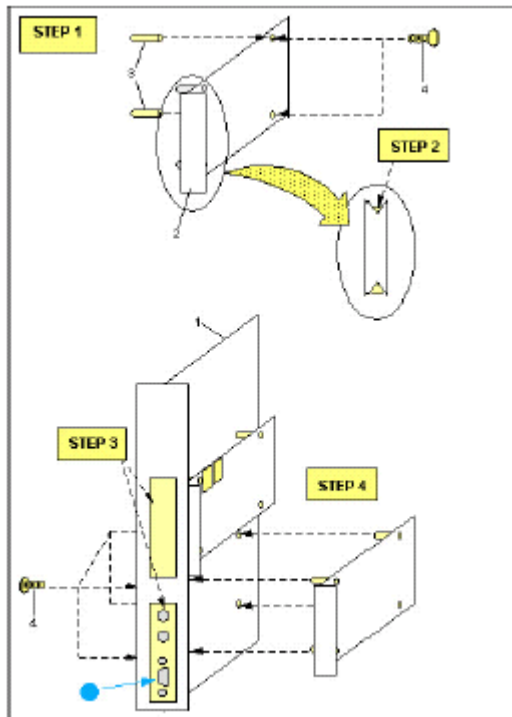

Figure 5 – Mounting DIP Board to Motorola Board
1. DIP board should already have 4 standoffs mounted as illustrated in Figure 5 below.